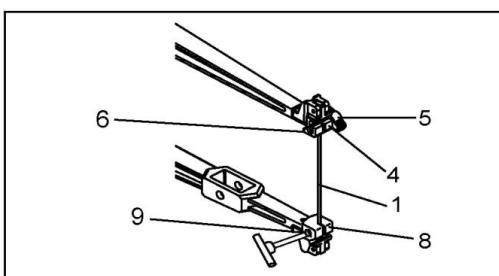

Fig. 13
2. Loosen the upper blade holder (4) by turning the quickrelease knob (5) counterclockwise. (Fig.13)
3. Tilt the table to 0° and tighten the bevel knob (7)(Fig.2).Loosen the pin (9) with a T-handle hexagon.wrenchunder the table on the left side of the lower blade holder(8) by turning counterclockwise. (Fig.13)